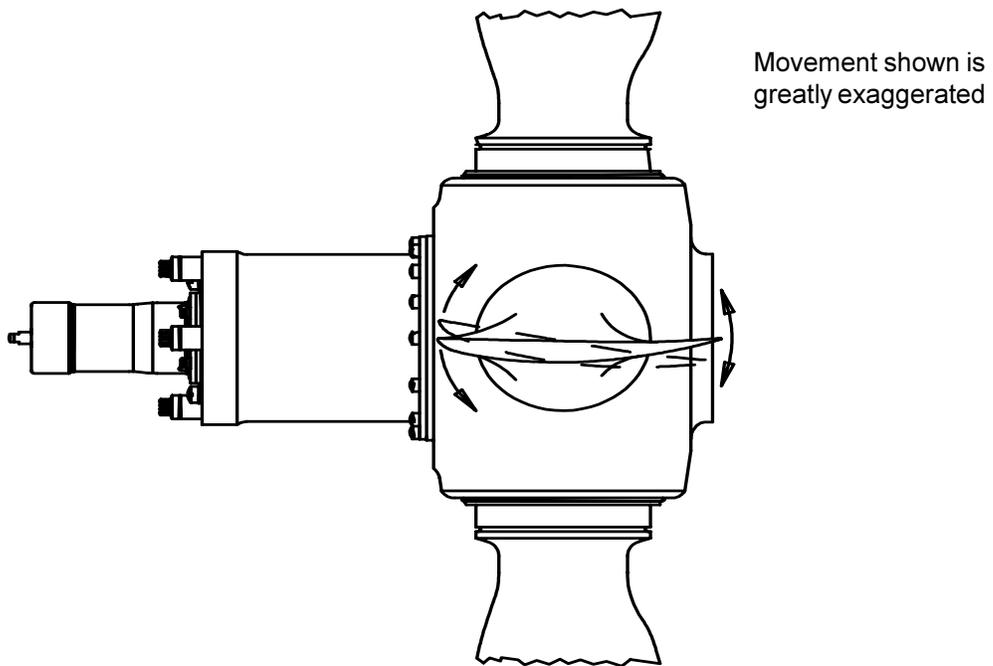

Figure 2 - Blade Twist
A. The first type is "rotational play" and can be defined as the sum total of rotational movement a propeller blade allows when moved by hand around its axis of rotation (see Figure 2). This movement is, to a limited degree, considered normal and should not be cause for concern. Please note that, while a specific rotational movement limit is no longer given, all blades in a propeller should have about the same amount of "rotational play". If the *difference* in rotational play between two blades is beyond 1.0 degree, uneven internal wear and/or damage is the possible cause.